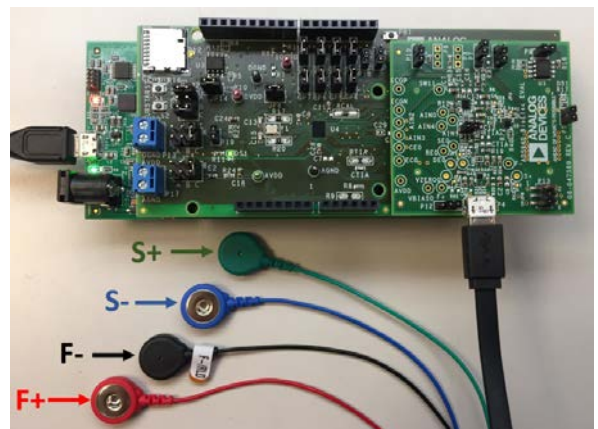

Figure 30. Full Hardware Setup with ECG Cables Labeled
measure ECG rate on a sensor/ECG simulator. The ECG cables are labeled in Figure 30.
4. Ensure the ADICUP3029 is connected to the PC via the microUSB to USB cable. Refer to the full hardware setup in Figure 30.